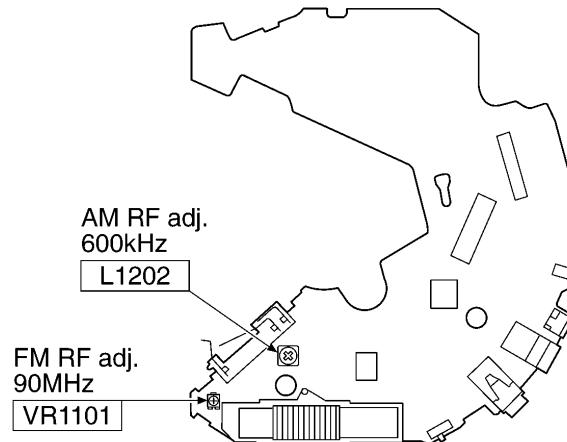

Fig. 14-3.
6. Adjust **VR1101** for maximum output. Refer to Fig. 14-3.
6. Adjust **L1202** for maximum output. Refer to Fig. 14-3.